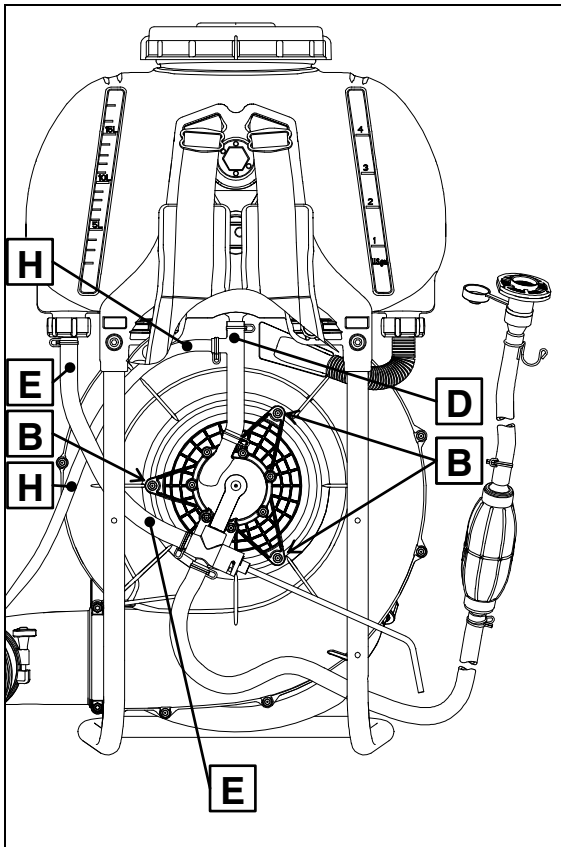

Figure 5 Assembly the pump and connect pipes
- Observing the Figure 5, connect the tube **D** (situated in the upper part of the pump) to the attack located in the lower part of the tank. Fix the tube **D** with the clamp.